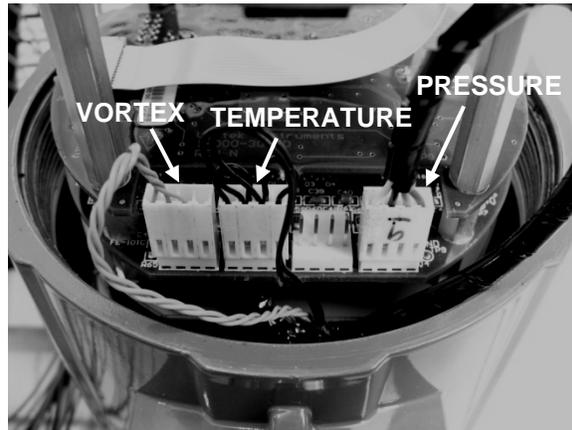

Figure 5-1. Electronics Stack Sensor Connections
3. Using ESD precautions and hazardous area precautions, remove the electronics enclosure window cover. Disconnect the vortex sensor from the electronics stack or remote feed through board. Refer to Figure 5-1 or 5-2. Measure the resistance from each outside pin to the meter ground - each should be open. Measure the resistance from the center pin to the meter ground – this should be grounded to the meter.
3. Using ESD precautions and hazardous area precautions, remove the electronics enclosure window cover. Disconnect the temperature sensor from the electronics stack or the remote feed through board. Refer to Figure 5-1 or 5-2. Measure the resistance across the outside pins of the temperature sensor connector. It should read approximately 1080 ohms at room temperature (higher resistance at higher temperatures).
3. Locate the sensor harnesses which come up from the neck of the flow meter and attaches to the circuit boards. Make note of the location of each sensor connection. Refer to figures 5-1 and 5-2. The vortex sensor connection is on the left, the temperature sensor connection (if present) is second from the left, and the pressure sensor connection (if present) is the right most connector. Use small pliers to pull the sensor wiring connectors off of the circuit boards.